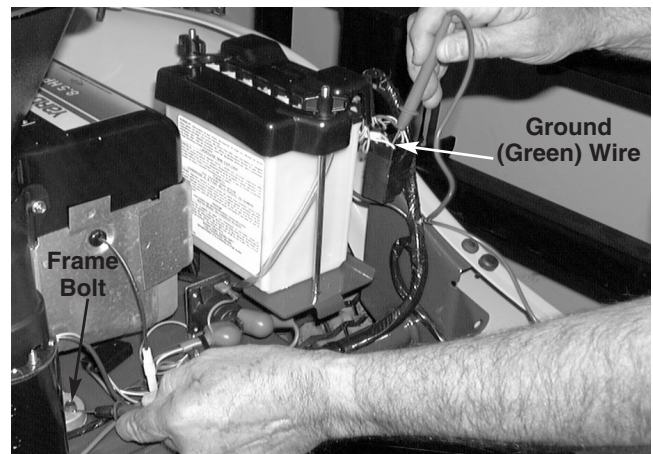

FIGURE 12.
–There will be **CONTINUITY**. See figure 12.